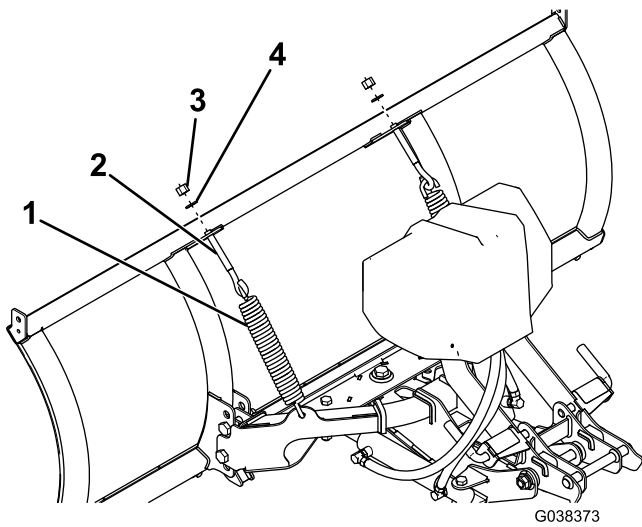

Figure 4
5. Hook the 2 trip springs through the holes on the push-frame assembly (Figure 4).
- Hook the other ends of the trip springs to 2 eyebolts (Figure 4).
- Insert the threaded end of the eyebolts through the holes on the plow blade and secure them using 2 washers (1/2 inch) and 2 self-locking nuts (Figure 4).